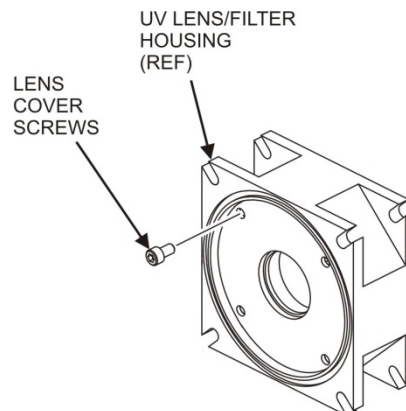
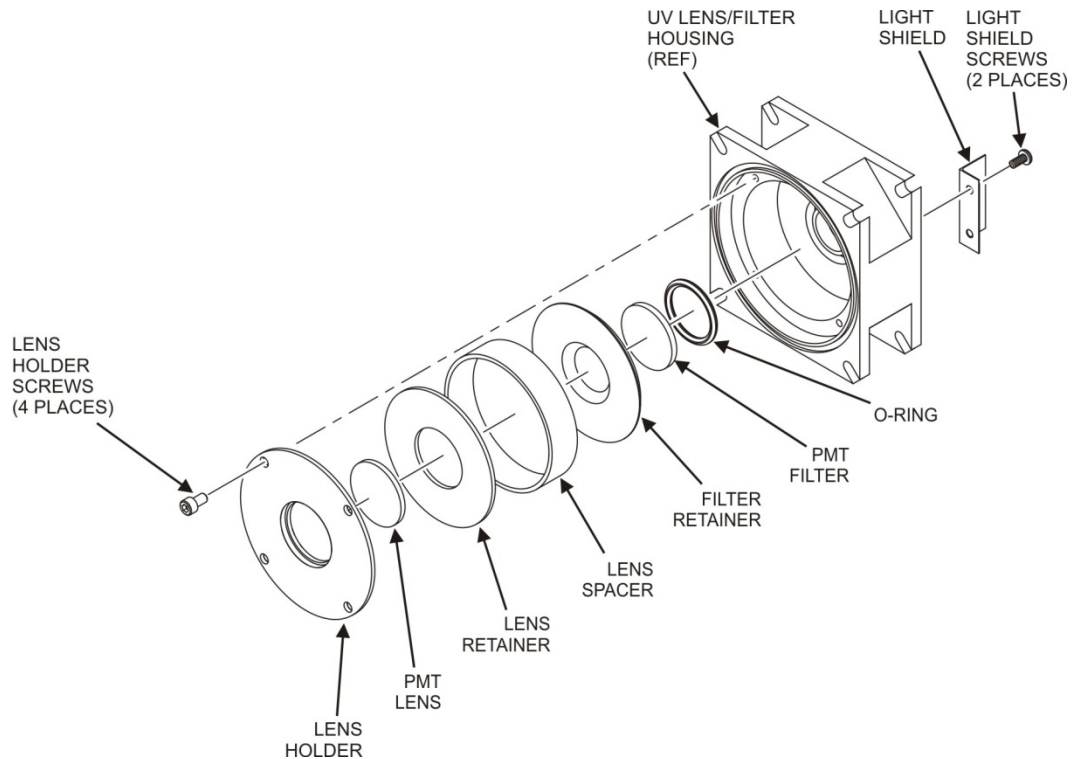

Figure 12-10: UV Lens Housing / Filter Housing
Figure 12-11: PMT UV Filter Housing Disassembled
10. Reassemble the lens/filter housing (refer to Figure 12-11 and Figure 12-10).